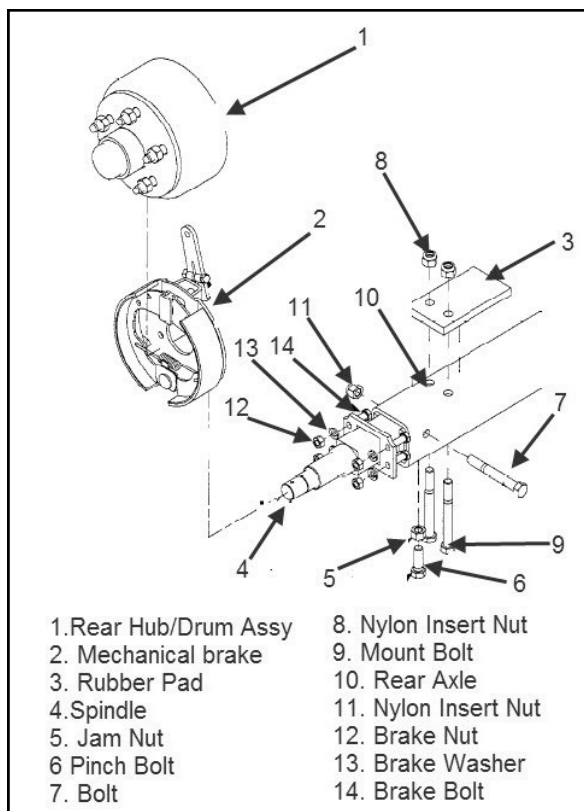

Figure 4-16 Rear Undercarriage Removal
See Figure 4-16 for the following maintenance steps. The rear undercarriage assembly consists of: a wheel assembly, a hub and brake drum assembly (1), a mechanical parking brake assembly (2), a rear spindle (4), and the axle (10).
- Remove brake cable end from arm (5) as described in section Section 4.20, step (a).
- Remove nuts (12), washers (13), and bolts (14) shown in Figure 4-16.
- Remove spring (3).
- Release brake shoes (2) by removing springs (9) from the backing plate (1).
- Remove nut (7), lock washer (8), and bolt (6) to release arm (5).
- Remove brake cam (4) by pulling directly outward.